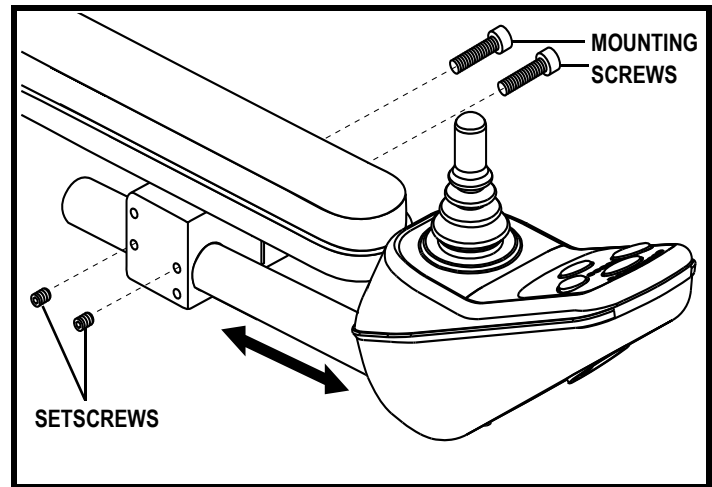

Figure 17. Controller Position Mounting Bracket
**NOTE:** If your power chair is equipped with a *Specialty Seat, Synergy Seat, or TRU-Balance Power Positioning System*, loosen the setscrews in the mounting block, slide the controller in or out to the desired position, then tighten the setscrews. See figure 17.
**NOTE:** If your power chair is equipped with a *Specialty Seat, Synergy Seat, or TRU-Balance Power Positioning System*, loosen the mounting screws in the mounting block, transfer the mounting block and controller to the opposite armrest, and tighten the mounting screws. See figure 17.